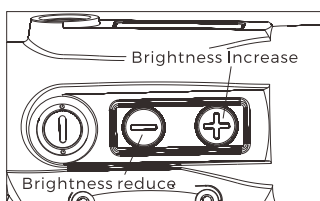

Fig5
- 1. Switch on (see Fig5): Press and release either brightness button ("+" or "-") to turn on the sight.